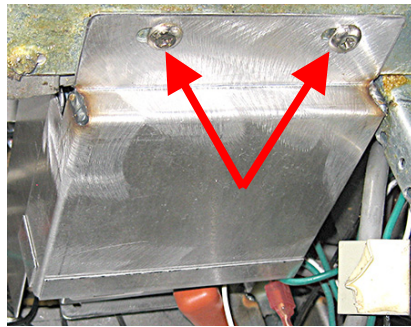

Figure 1
2. Remove the module cover by removing the two (2) screws securing the cover (see Figure 1).